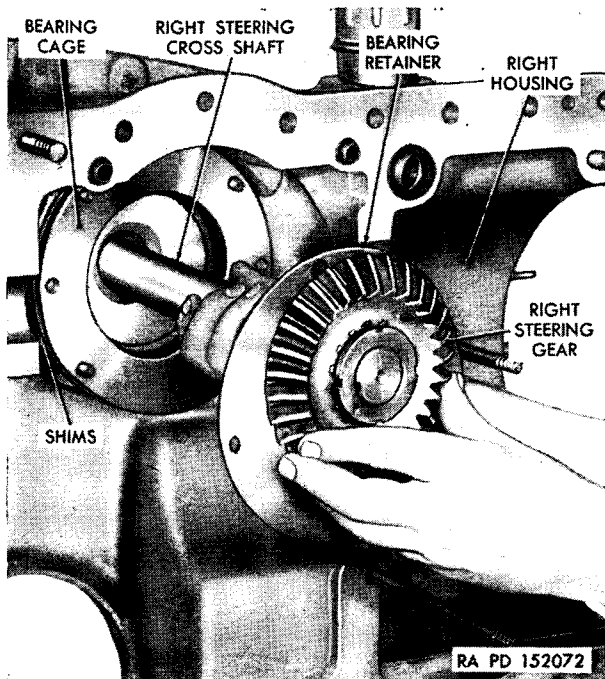
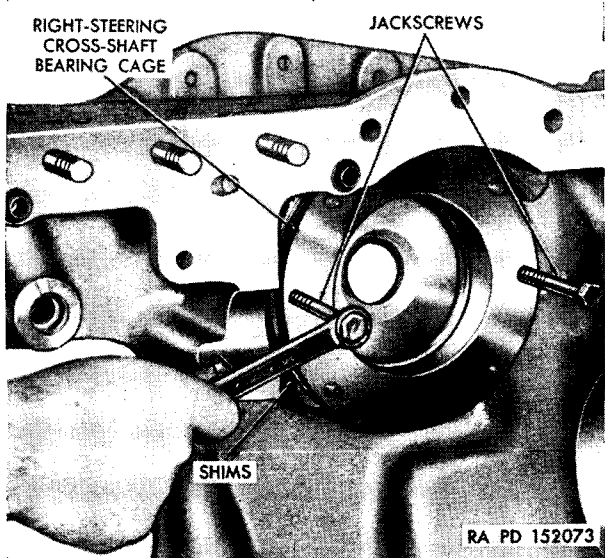

Figure 333. Removing or installing right steering cross shaft assembly.
Figure 334. Removing right steering-cross-shaft bearing cage.
- b. Remove the cotter pins from the four castellated nuts which secure the right steering cross shaft assembly to the housing. Using a $\frac{1}{2}$ -inch wrench, remove the nuts and pull the shaft assembly out of the housing (fig. 333). Using two $\frac{3}{8}$ -inch jack screws, separate and remove the bearing cage from the housing (fig. 334). Remove the shims from the steering-cross-shaft to housing studs. Wire the shims to the bearing cage for safekeeping.
d. Install the proper shims on the steering cross shaft bearing cage to housing studs. Install the bearing cage on the studs. Install the right steering cross shaft and bearing assembly in the cage (fig. 333) and secure it to the housing with four $\frac{5}{16}$ -inch castellated nuts. Torque the nuts to 9 to 11 pound-feet and install cotter pins.